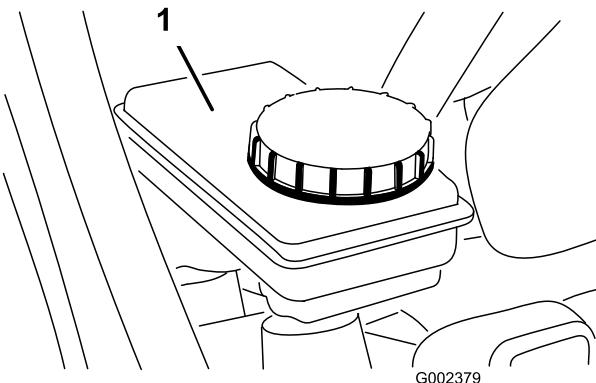

Figure 19
- Check the brake fluid level (Figure 19).
- Clean the area around the cap (Figure 19).
- Remove the reservoir cap (Figure 19).
C. Fill the reservoir to the Full line on the reservoir with the specified brake fluid (Figure 19).